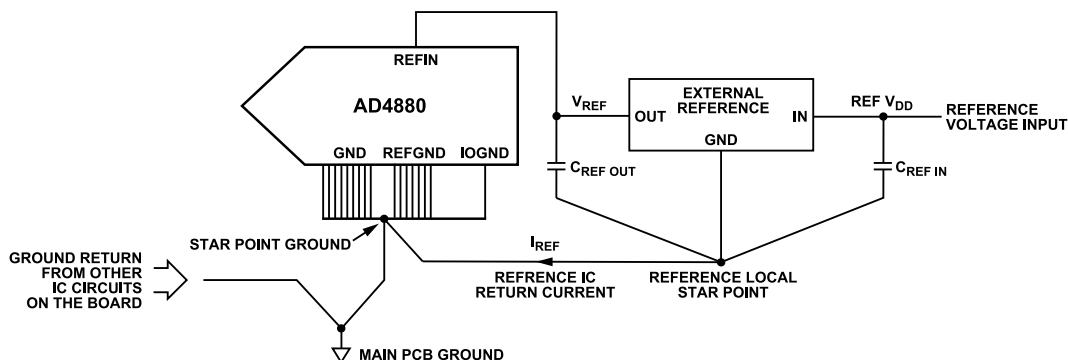

Figure 143. AD4880 External Reference Ground Connections
- ▶ Recommended connections of ground (GND), reference ground (REFGND), and digital ground (IOGND) connections are shown in Figure 143. It is recommended not to keep the current return path of the reference IC in the same current loop as the current return loop from other circuitry on the PCB. Connect the reference local star point to the ADC star point ground on the top layer of the PCB, as shown in Figure 143.